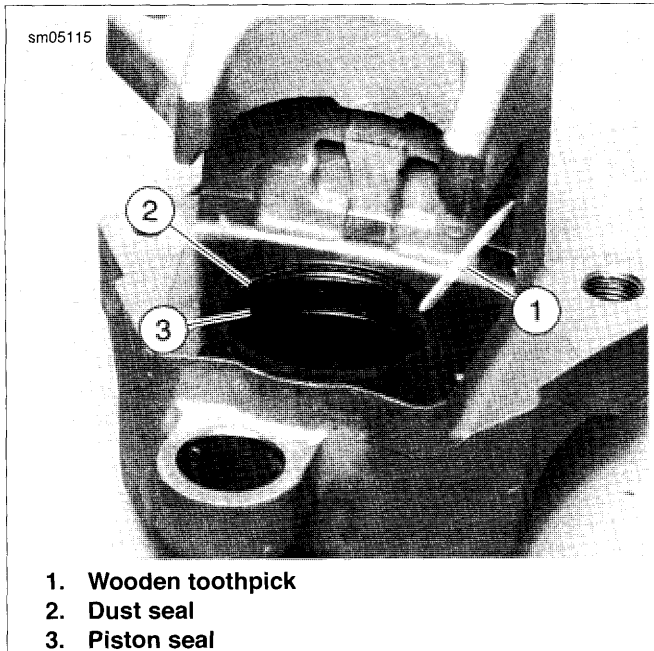

Figure 2-114. Caliper Seals
- See Figure 2-114. Using a wooden toothpick (1), remove dust seal (2) and piston seal (3) from caliper bore. Discard seals.